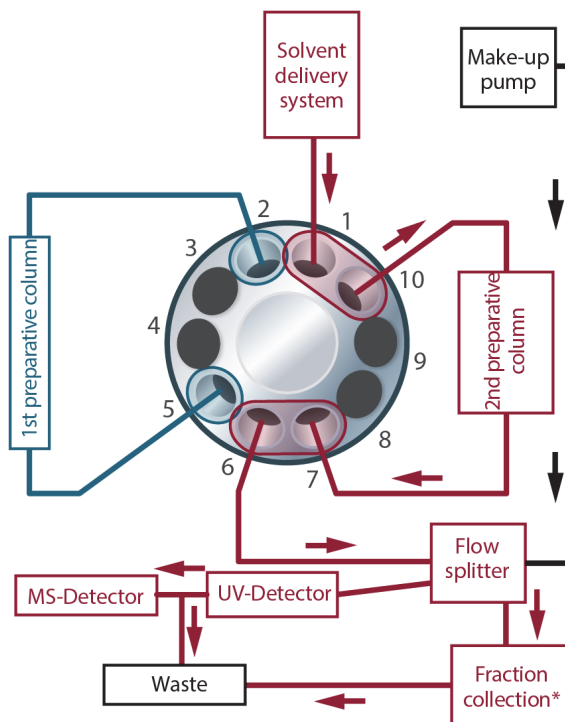

Figure 23 Schematic overview for a UV-MS detection based preparative scale system with flow split before UV-detection
- UV detector after splitter (see Figure 23 on page 62)